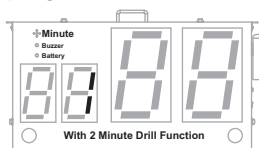

Figure 1
- A. Use the S+1, S+10, or S-10 button to select the segment to be programmed. e.g. select segment 1, see Figure 1.